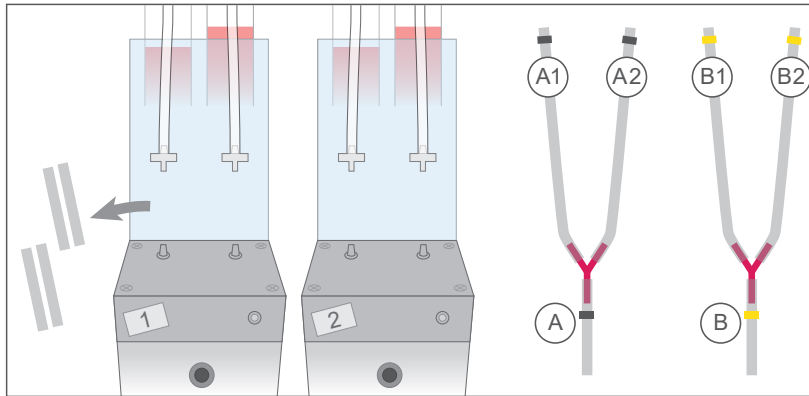

Figure 41: Preparation and parts to connect the Air Pressure Splitter Set for two Fluidic Units to the primary (1) and secondary (2) Fluidic Unit.
1. Remove the short tubing that standardly connects the valve block (V1) to the tubing leading to the Perfusion Set. Keep them in a safe place to re-install them for use in unidirectional mode (Figure 41).